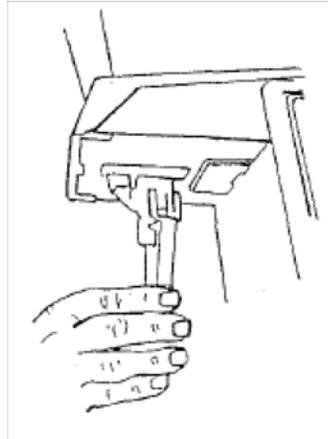

Figure 6
- a. Push the handle assembly straight up through the rectangular hole until the clips snap into place (See Figure 6.).